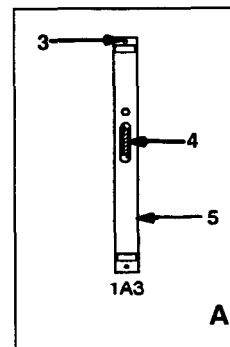

Figure 2. Removal and Installation of TRANSEC CCA 1A3
b. Loosen 22 screws retaining top cover (1) to Modem R/T. Remove Modem R/T top cover (1). (figure 2)